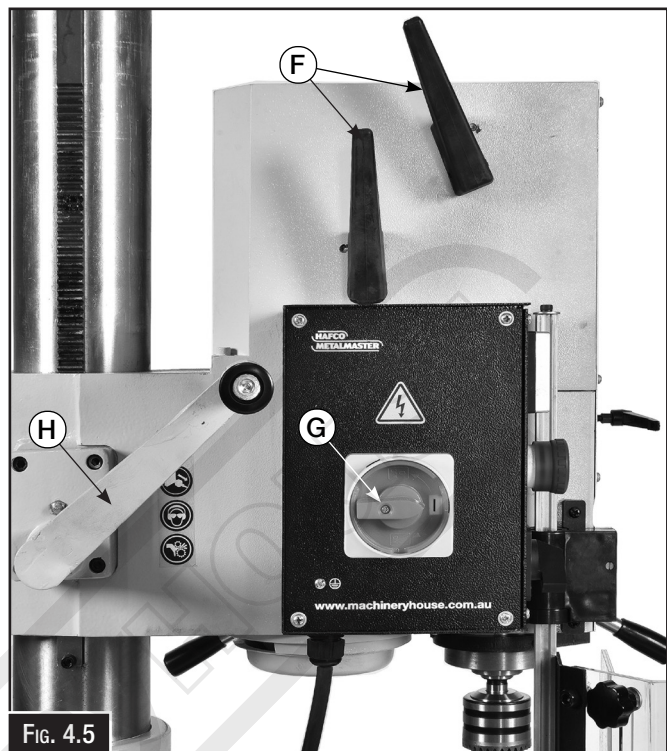

FIG. 4.5
- F. Gearbox Speed Levers:** Sets the speed of the spindle gearbox (Fig. 4.5)